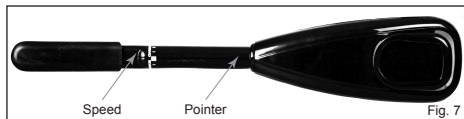

Fig. 7
2. The motor offers a choice of five forward and three reverse speeds. The scales on the twist grip handle represent a percentage of maximum thrust. Hearing a "click" while rolling the handle means you have reached a different speed. (See Fig. 7)